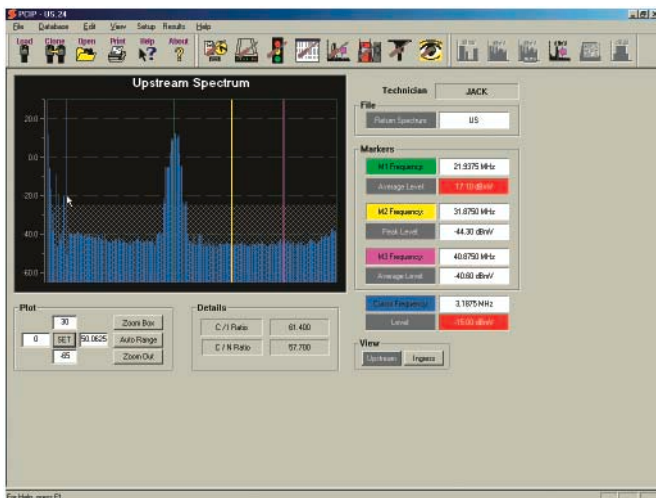

Figure 5-12
When the Upstream Spectrum icon is in color, it means that the current file is an Upstream Spectrum test saved file that can be viewed and analyzed by clicking on the icon. When the icon is selected, the screen the Upstream Spectrum saved data is displayed (Figure 5-12).
Figure 5-12 shows the typical recalled Upstream Spectrum display. Markers provide the frequency indication and level where the marker is positioned. Markers 1, 2 and 3 are fixed to the points where the measurements were made when the test results were saved. A blue cursor is also provided, which may be moved by clicking and holding down on the button while dragging the cursor to the desired location.
**Zoom Box** – Clicking on the Zoom Box button, as shown in the Figure 5-12, allows the user to place a box over the area of the bar graph that he wishes to view.